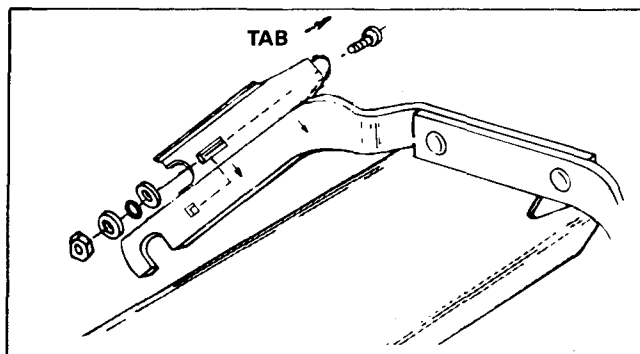

Figure 81
10. See Figure 81. Place one latch against the outside of both mount bars with the tab up (and facing outward) and the long slot located in front of the square hole near the mounting slot. Secure each latch with one 1/4" X 3/4" carriage bolt - threads facing inward, a special washer, O-ring, special washer and 1/4" hex locknut.